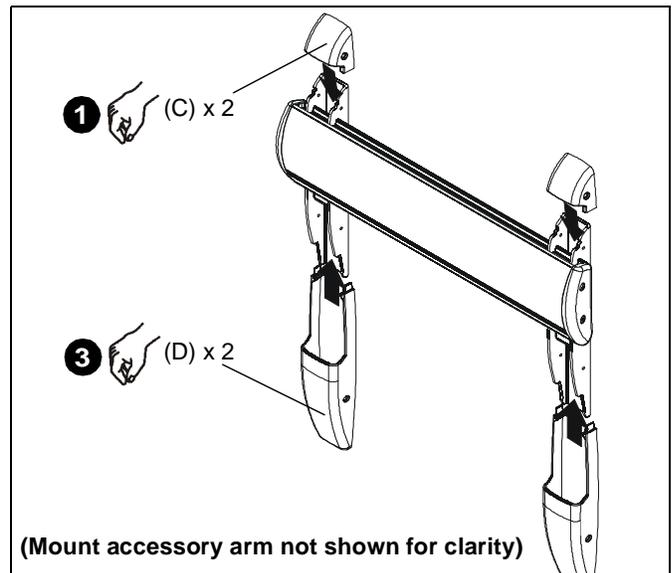

Figure 26
- Place mounting bracket top covers (C) over top of each mounting bracket arm. (See Figure 26)
3. Place wall bracket bottom covers (D) over bottom of each wall bracket arm. (See Figure 26)